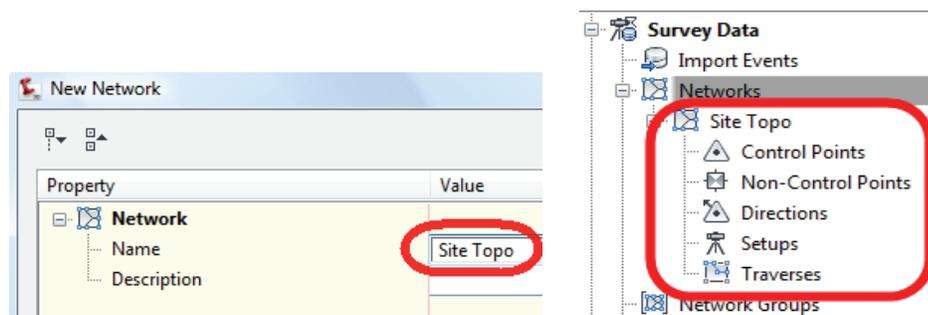

Figure 2–12
2. In the New Network dialog box, enter **Site Topo** for the network name, as shown on the left in Figure 2–12, and click  to create the network. The new network displays under the *Survey Data1>Networks* collection, as shown on the right. Expand the *Site Topo* network by clicking on its adjacent + sign.